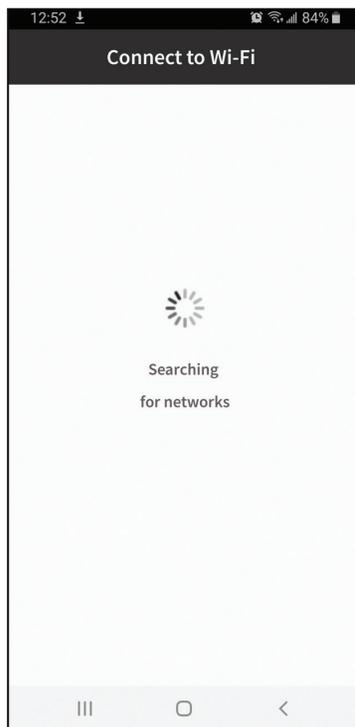

**Fig. 5**
4. Search for devices and select the device from the list (**Fig. 5 & 6**).